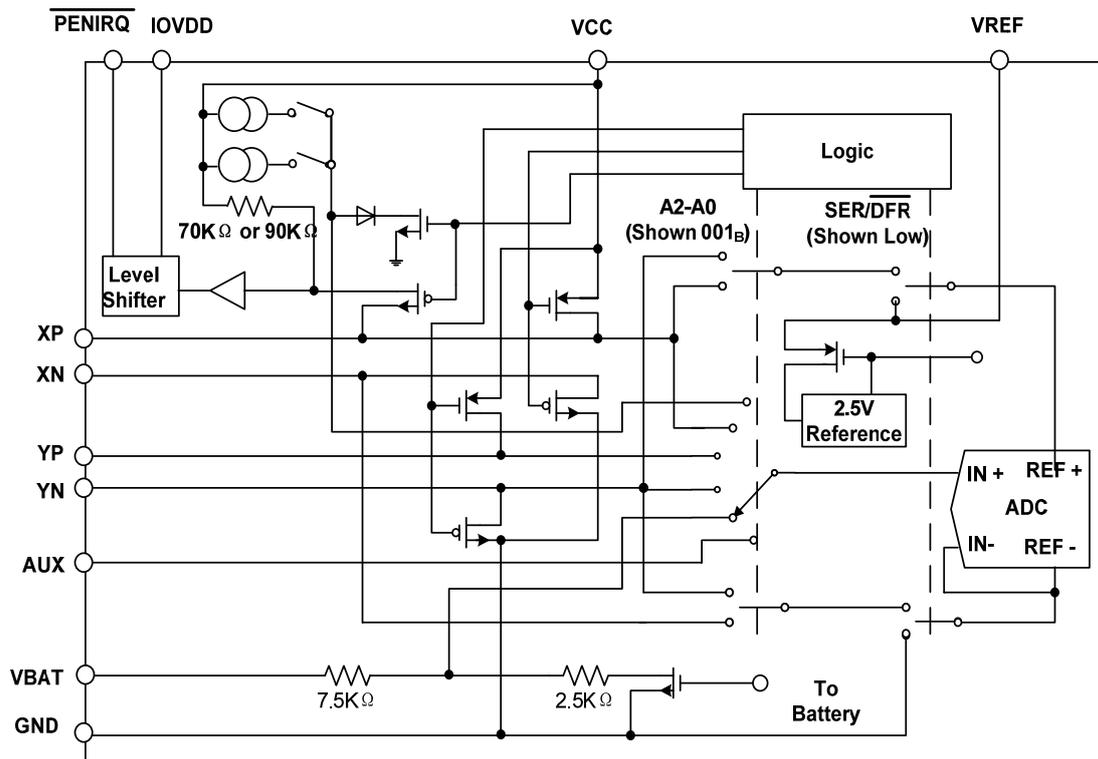
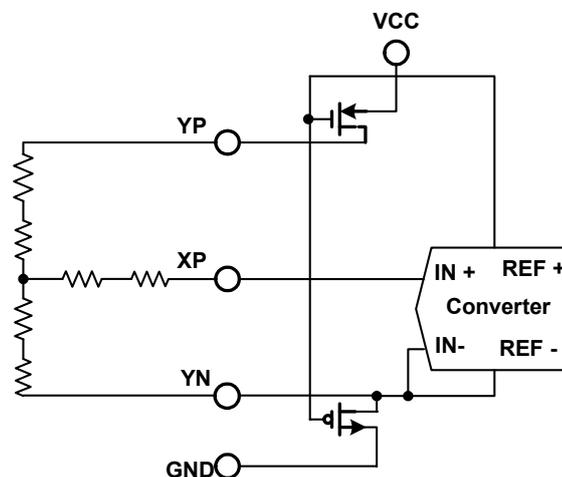

Figure 5. Simplified Diagram of Analog Input
Figure 8. Simplified Diagram of Differential Reference (SER/DFR low, Y switches enabled, X+ is analog input)
Figure 5 shows a block diagram of the input multiplexer on the XPT2046, the differential input of the ADC, and the differential reference of the converter. Table 4 and Table 5 show the relationship between the A2, A1, A0, and SER/DFR control bits and the configuration of the XPT2046. The control bits are provided serially via the DIN pin—see the *Digital Interface* section of this data sheet for more details.
The voltage difference between +REF and –REF (see Figure 5 sets the analog input range. The XPT2046 operates with a reference in the range of 1V to +VCC. There are several critical items concerning the reference input and its wide voltage range. As the reference voltage is reduced, the analog voltage weight of each digital output code is also reduced.
This situation can be remedied as shown in Figure 8. By setting the SER/DFR bit low, the +REF and -REF inputs are connected directly to Y+ and Y-, respectively, which makes the analog-to-digital conversion ratiometric. The result of the conversion is always a percentage of the external resistance, regardless of how it changes in relation to the on-resistance of the internal switches. Note that there is an important consideration regarding power dissipation when using the ratiometric mode of operation (see the *Power Dissipation* section for more details). As a final note about the differential reference mode, it must be used with +VCC as the source of the +REF voltage and cannot be used with VREF. It is possible to use a high-precision reference on VREF and single-ended reference mode for measurements which do not need to be ratiometric. In some cases, it is possible to power the converter directly from a precision reference. Most references can provide enough power for the XPT2046, but might not be able to supply enough current for the external load (such as a resistive touch screen).
**Addressing**—The next three bits (A2, A1, and A0) select the active input channel(s) of the input multiplexer (see Table 1, Table 2, and Figure 5), touch screen drivers, and the reference inputs.
**SER/DFR**—The SER/DFR bit controls the reference mode, either single-ended (high) or differential (low). The differential mode is also referred to as the ratiometric conversion mode and is preferred for X-Position, Y-Position, and Pressure-Touch measurements for optimum performance. The reference is derived from the voltage at the switch drivers, which is almost the same as the voltage to the touch screen. In this case, a reference voltage is not needed as the reference voltage to the ADC is the voltage across the touch screen. In the single-ended mode, the converter reference voltage is always the difference between the VREF and GND pins (see Table 1 and Table 2, and Figure 5 through Figure 8, for further information).